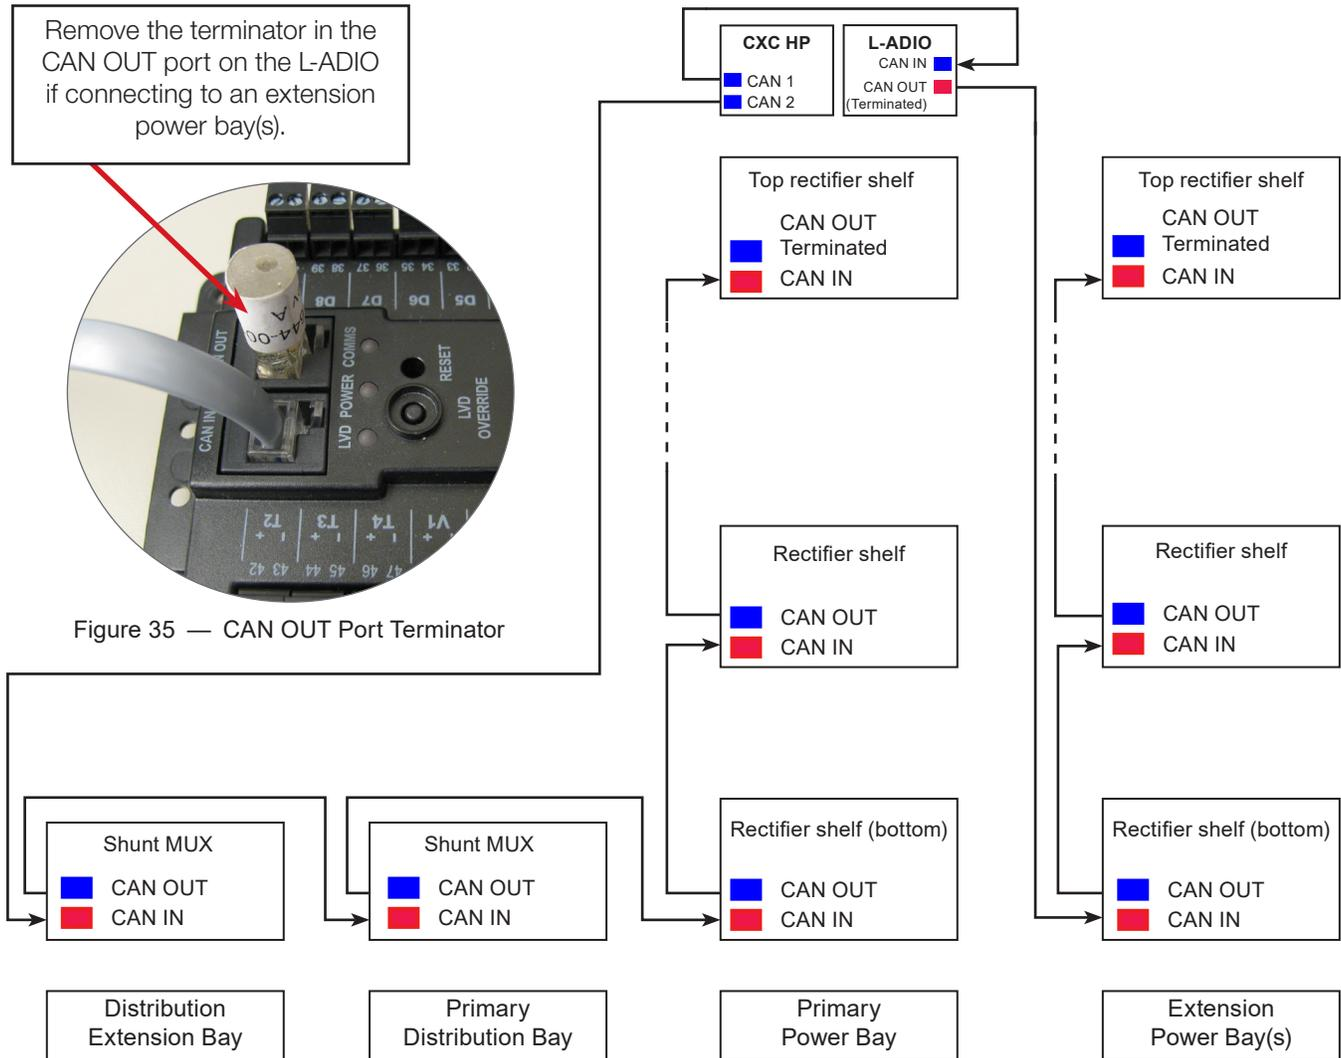

Figure 36 — Controller, CAN Bus cabling 4.0kW Power Bay
In your existing system, the CAN Bus is terminated at the highest shelf in the outermost power bay. (See Figure 36 for the sequence of CAN bus cabling)
If optional shunt mux are installed, the existing outer distribution bay is connected by a CAN bus cable to the controller. The CAN bus cable is then daisy-chained to shunt mux in the next distribution bays—see Figure 36.
5. Daisy chain the remaining shunt mux as shown in Figure 36 using cables from the cable kit where necessary.